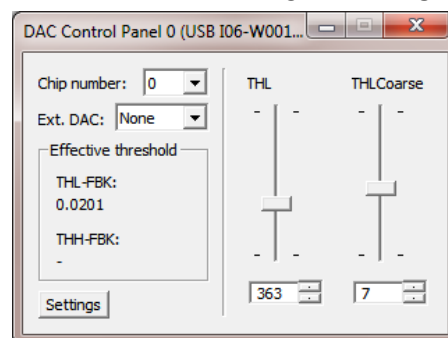

Figure 5 DAC control panel
**Medipix Control** → Tools → DAC Control Panel (see Figure 5)
The THL value is ambient temperature dependent, but should be around 350-380 ADC. *What do ADC and DAC stand for?* Set THL to about 20 units below the indicated value in Figure 5, e. g. if the displayed value is 363 ADC, set ~343 ADC.